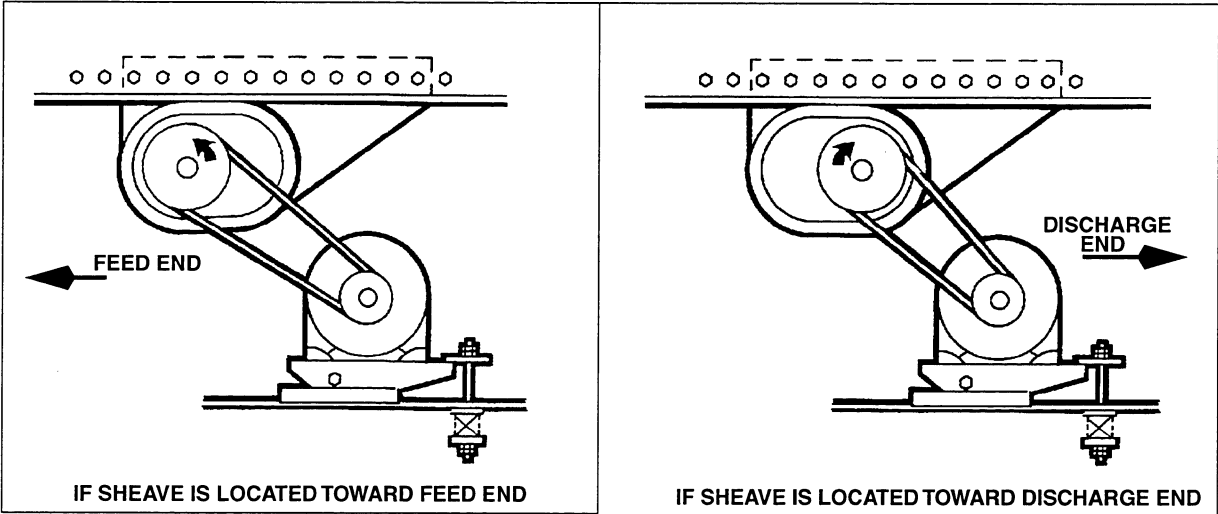

Figure 3-11. Sheave Rotation
3. Start feeder and check for leaks, unusual noises or loose parts. Stop feeder immediately if any problems are noticed. Be sure feeder sheave is turning in the direction shown in Figure 3-11.